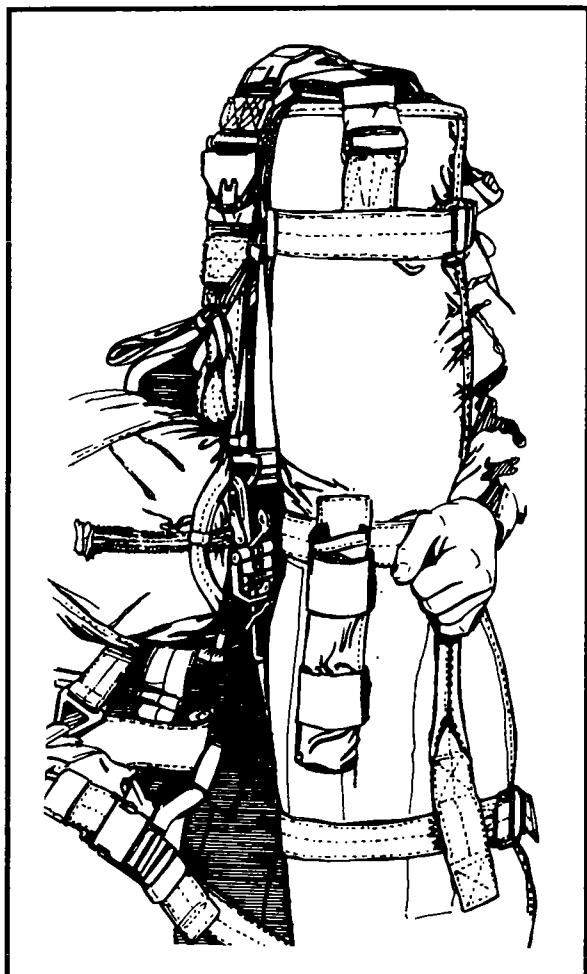

Figure 6-60. Attaching equipment to parachutist.
d. Grasp the quick-ejector snap of the MOD lowering line already attached to the ALICE and route (from bottom to top) through the D-ring opening at the center of the pack, upper tie-down chape loop, and top D-ring located at the aft end. Position the 18-inch strata blue marking on MOD HPT lowering line even with D-ring on top of AT4JP (Figure 6-60).